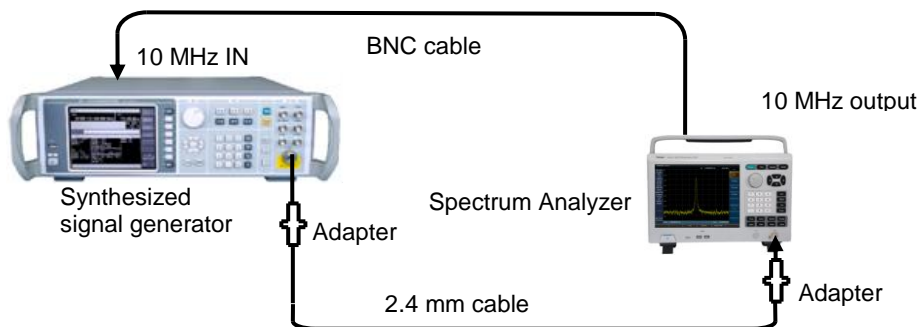

Fig 11-7 Diagram of sideband noise test
- 1) Connect the test instrument as shown in Fig 11-7. The spectrum analyzer provides a reference frequency for the synthetic signal generator.